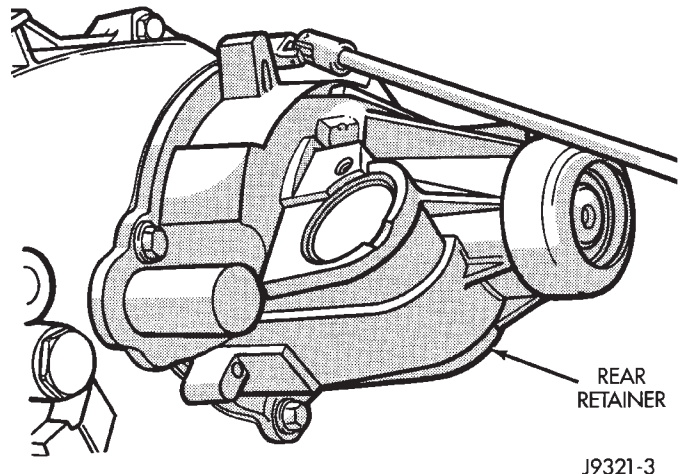

Fig. 3 Removing Rear Retainer Bolts
- (4) Remove rear retainer bolts (Fig. 3).